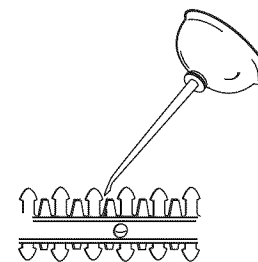

Fig. 6
- Apply light machine oil along the edge of the top blade (Fig. 6).